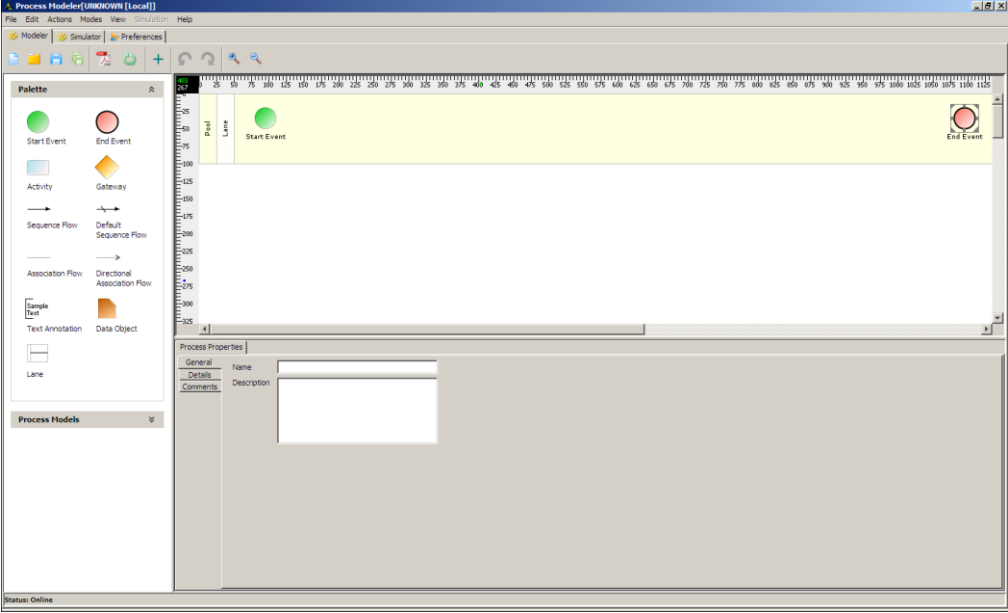

Figure 3: Process Modeler
- 5. Click **Process Modeler** button. The *Process Modeler* applet is displayed (see Figure 3).